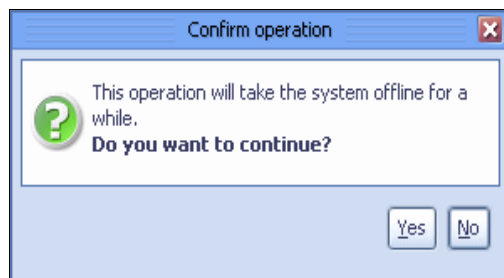

Figure 10-122 Confirmation window
1. Select **System** → **Check and recover**. A confirmation message box opens (Figure 10-122).